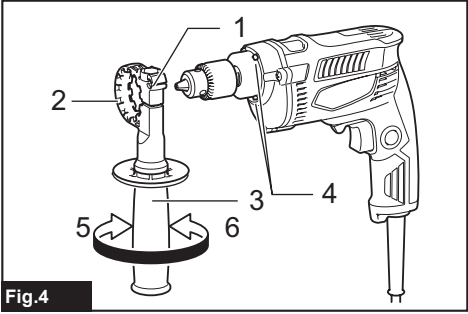

Fig.4
► Fig.4: 1. Grip base 2. Teeth 3. Side grip (auxiliary handle) 4. Protrusion 5. Loosen 6. Tighten